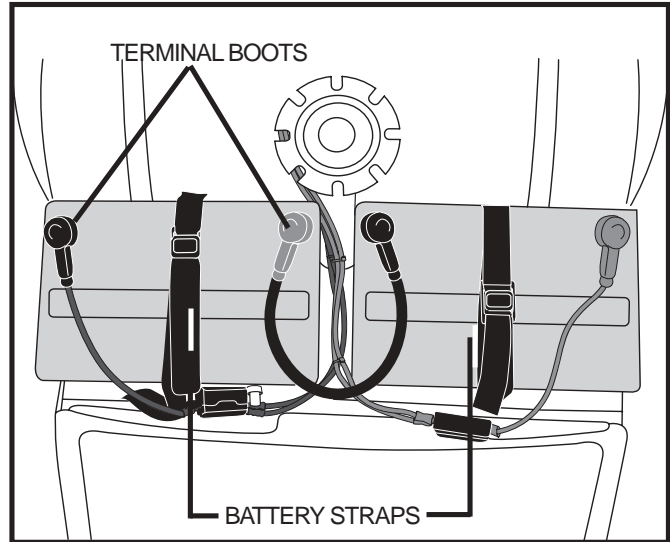

Figure 12. Battery Straps
3. Disconnect the battery tie-down strap. See figure 12.
NOTE: Ensure both battery terminals are covered with the terminal boots. See figure 12.